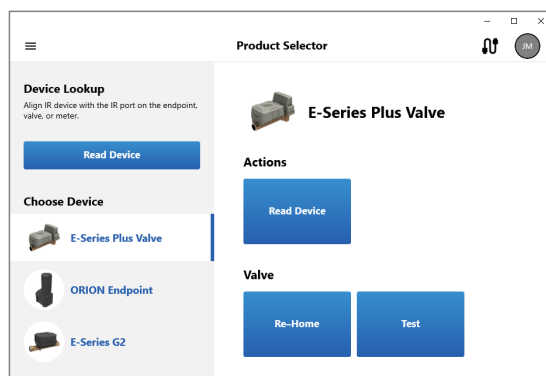

Figure 31: Valve selected
1. Select **E-Series Plus Valve**. See Figure 31.